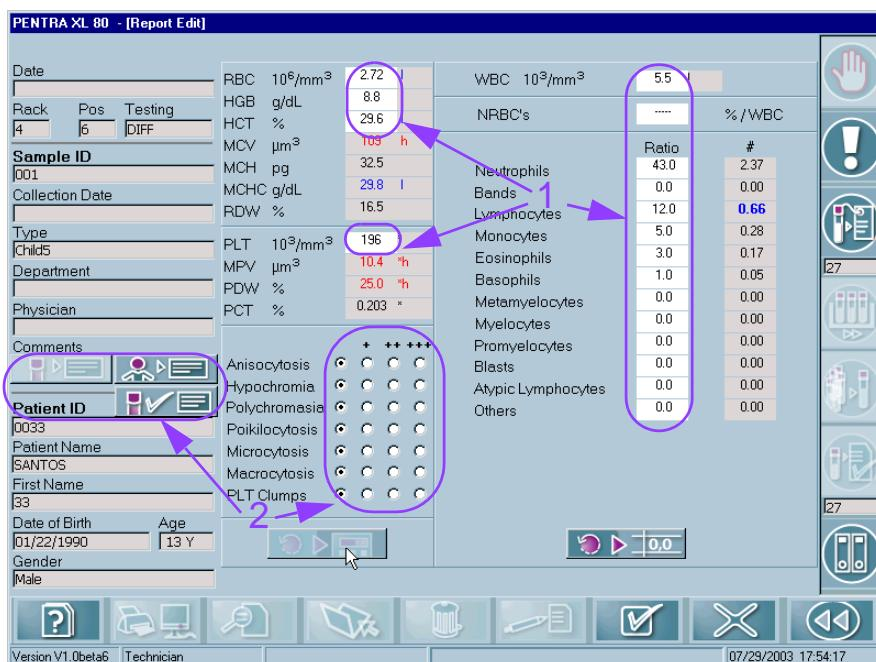

Fig. 4-49 Report Edit screen
- ◆ RBC, HGB, HCT, PLT, WBC, Differential %, NRBC's (see 1, Fig. 4-49 Report Edit screen, page 4-61)
- ◆ Comments (see 2, Fig. 4-49 Report Edit screen, page 4-61)